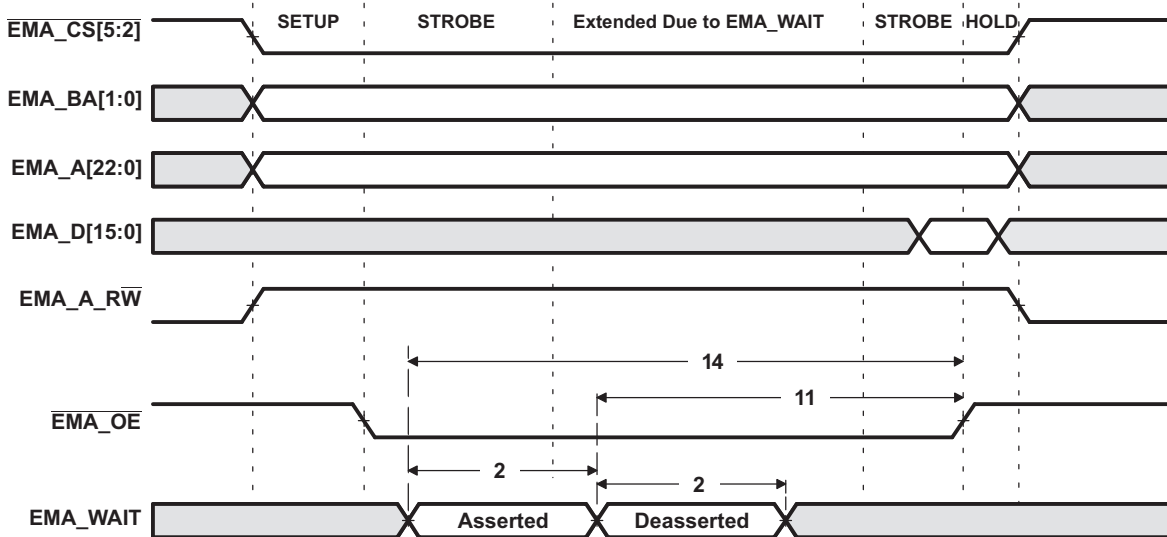
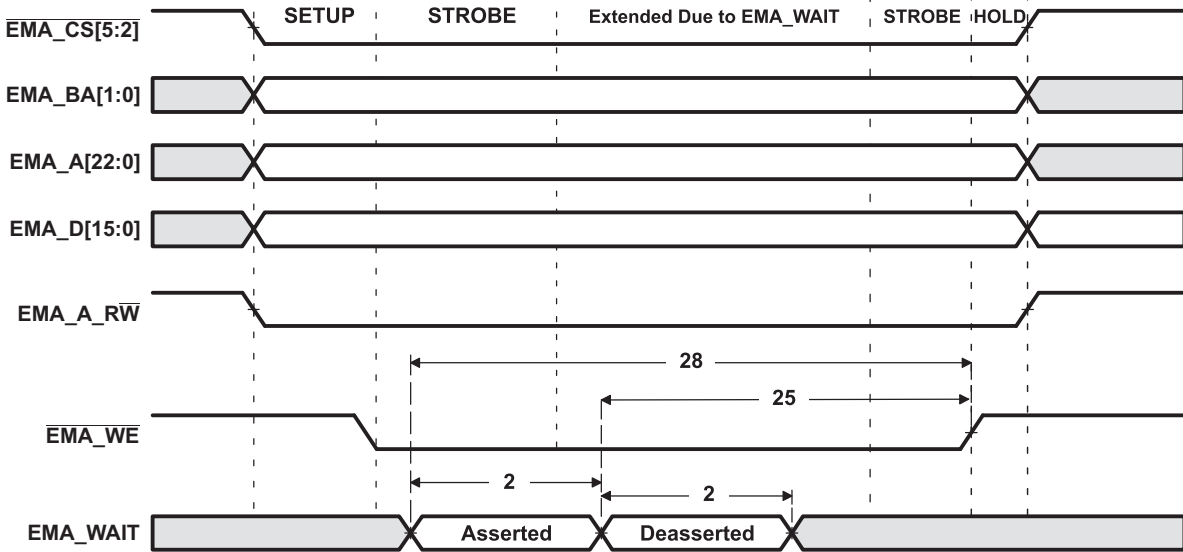

Figure 5-17. EMA\_WAIT Read Timing Requirements
Figure 5-18. EMA\_WAIT Write Timing Requirements
(1) E = EMA\_CLK period or in ns. EMA\_CLK is selected either as SYSCLK3 or the PLL0 output clock divided by 4.5. As an example, when SYSCLK3 is selected and set to 100MHz, E=10ns
(2) Setup before end of STROBE phase (if no extended wait states are inserted) by which EM\_WAIT must be asserted to add extended wait states. Figure 5-17 and Figure 5-18 describe EMIF transactions that include extended wait states inserted during the STROBE phase. However, cycles inserted as part of this extended wait period should not be counted; the 4E requirement is to the start of where the HOLD phase would begin if there were no extended wait cycles.
**Table 5-24. Switching Characteristics for EMIFA Asynchronous Memory Interface (1) (2) (3)**